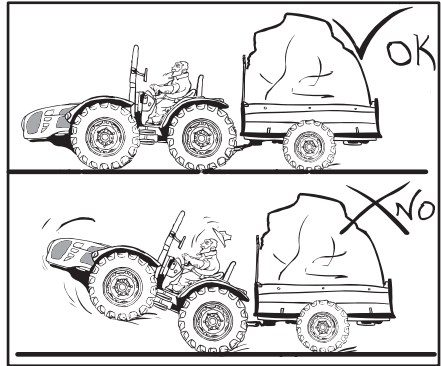

Fig. 2.21
- Only tow from the drawbar. Towing or coupling from other points can cause the tractor to overturn (Fig. 2.21).